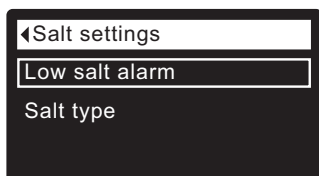

FIG. 91
3. Press the SELECT (O) button to display the Salt settings menu (See Figure 91).
7. Press the SELECT (O) button. The display will go back to the Salt settings menu (Figure 91).